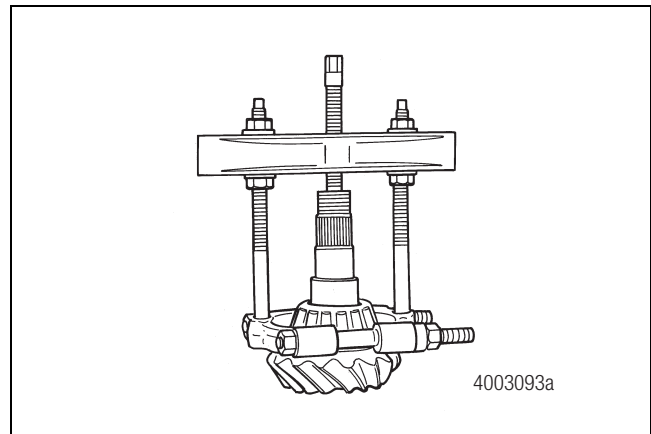

Figure 4.12
2. Use the correct puller to remove the inner bearing cone from the pinion. Figure 4.12.